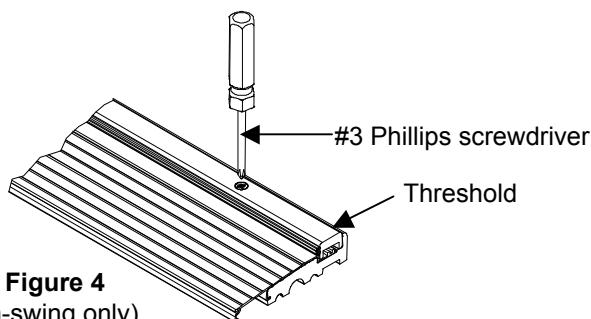

Figure 4
- 4 For an in-swing door with adjustable threshold, adjust the threshold as shown in Figure 4 so that there is even contact between the door sweep and the threshold. To test, put a sheet of paper between door sweep and threshold, close the door and pull. The correct adjustment would have slight tension, but if the paper tears, the tension is too high.